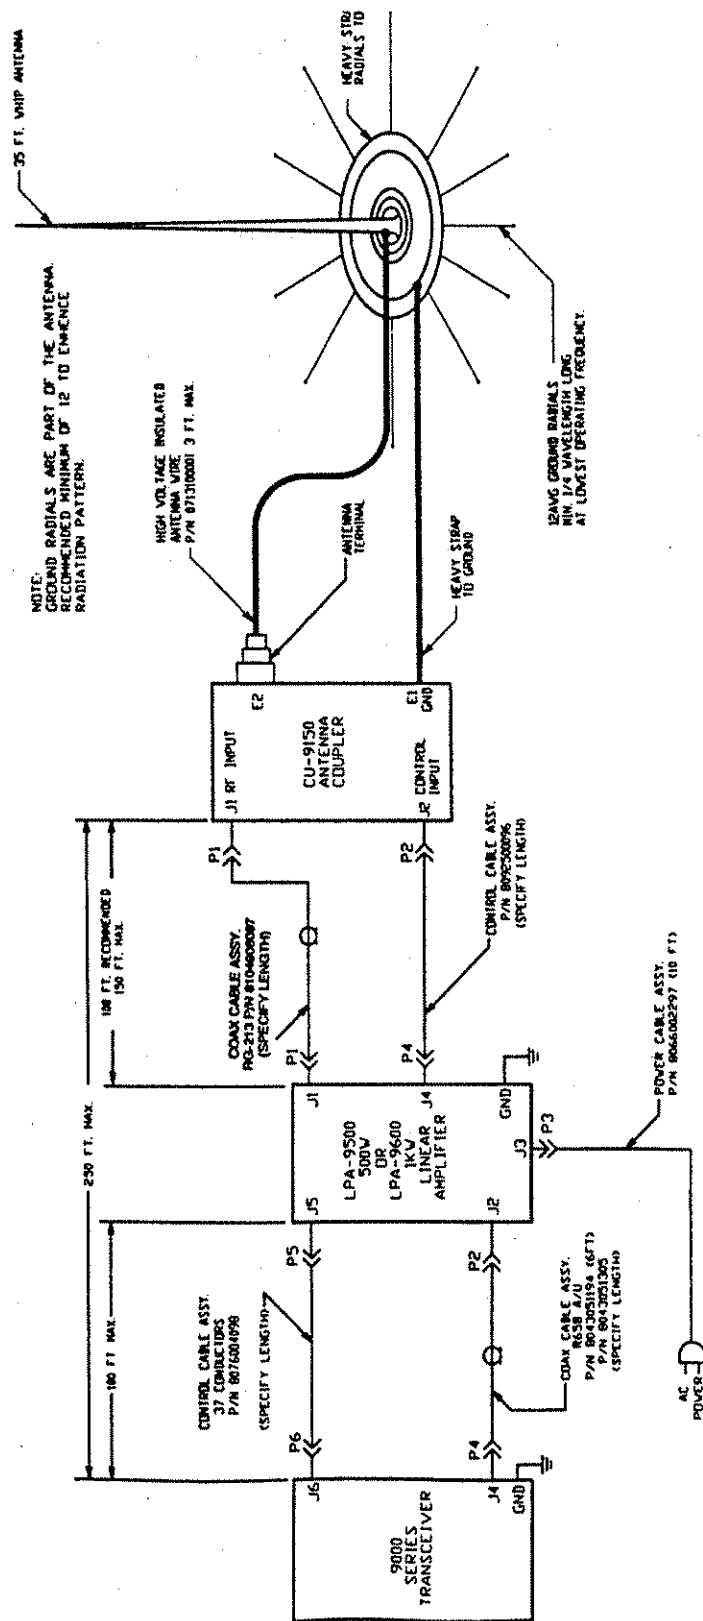

Figure 2.3 LPA-9600 W/CU-9150, 35 Ft. Antenna.
- b) When using whip antennas, the ground system actually forms part of the radiating system. Where space permits (such as in a base station installation) a good ground plane or radial system should be installed at the base of the antenna. (See Figure 2.3)
Refer to Figures 2.3, 2.4, and/or 2.5 as needed.